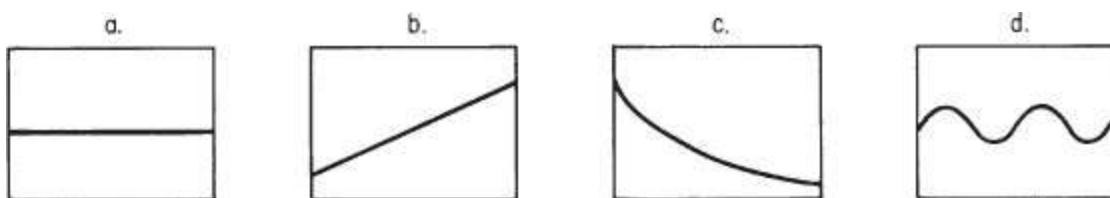

Figure SAT17Q4
4. Which of the following plots in Figure SAT17Q4 of response versus time are not transient-state processes?